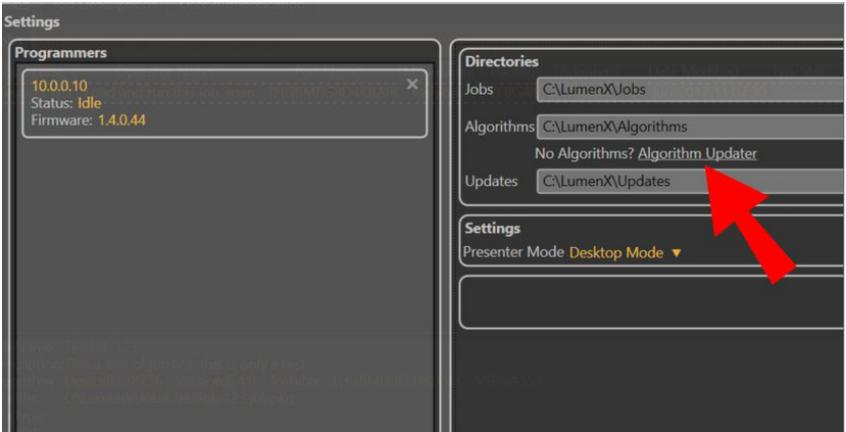

Figure 9: The **Directories** group at **Settings** > **Settings**. Note that the window can be dragged larger to display more.
- 5-4. In the same **Directories** group, check for new algorithms from Data I/O by clicking the link **Algorithm Updater**. Refer to Figure 9.